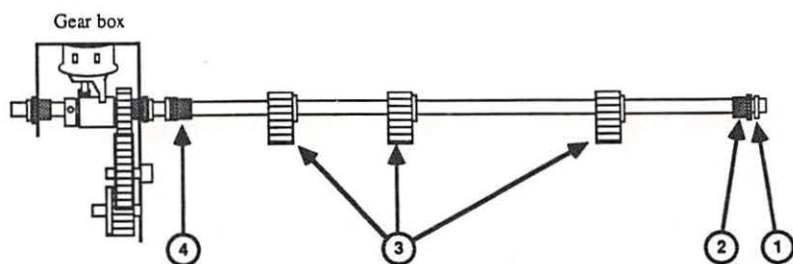

FIGURE 2-48: ROLLER SHAFT
2. Using grip ring pliers and safety goggles, remove the grip-ring at the end of the roller shaft (Figure 2-48, #1); then slide off the bushing (Figure 2-48, #2).
3. On the other side of the roller shaft, slide the bushing (Figure 2-48, #4) out of its slot in the frame, and lift up the roller shaft part way. Unhook the spring that holds it to the other side of the assembly, and lift it free.
4. Remove the three E-rings and pickup rollers (Figure 2-48, #3). **IMPORTANT:** Do not lose the small metal rods that keep the rollers in place.
2. Put the roller shaft back into place, making sure the bushing (Figure 2-48, #4) is fully inserted in its slot, so that it holds the shaft in place. (The bushing has a small tooth that must be positioned in the slot opening.)